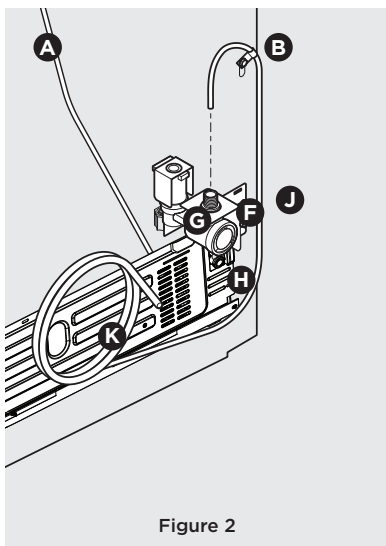

Figure 2
**If you use braided flexible stainless steel tubing** - The nut is already assembled on the tubing. Slide the nut onto the valve inlet and finger tighten the nut onto valve. Tighten another half turn with a wrench; DO NOT overtighten. See Figure 2.